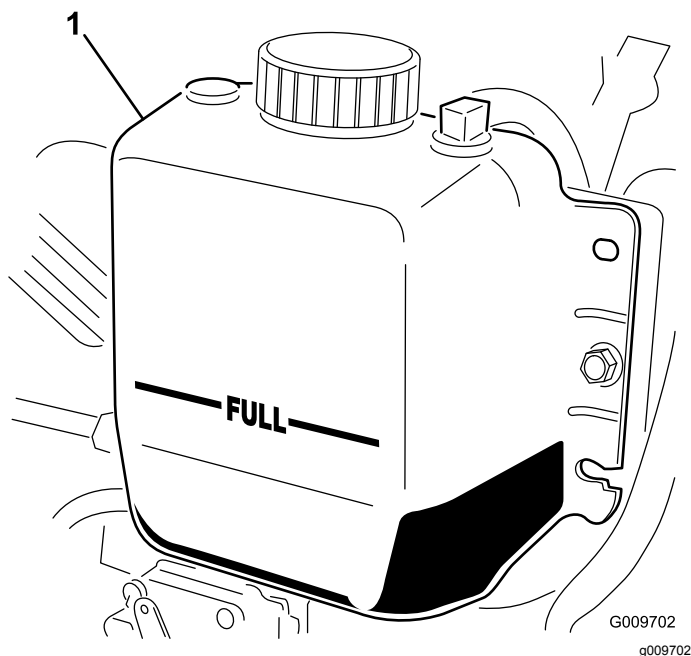

Figure 15
2. Check the coolant level in the radiator. The radiator should be filled to the top of the filler neck and the expansion tank filled to the Full mark (Figure 15).